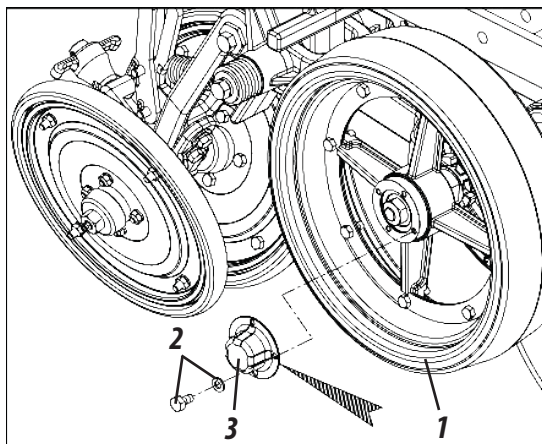

Figure 62
LUBRICATE EVERY 200 HOURS OF OPERATION (FIGURE 62)
- 1- Periodically lubricate the compactor wheels (1) approximately every 200 hours of operation and at the end of the harvest, so to do this, proceed as follows:
- 2- In the compactor wheels (1) loosen the screws and washers (2), remove the hubcap (3) and insert new grease. Replace the hubcap (3) on the compactor wheels (1) and fasten them using screws and washers (2), **as shown in figure 62.**